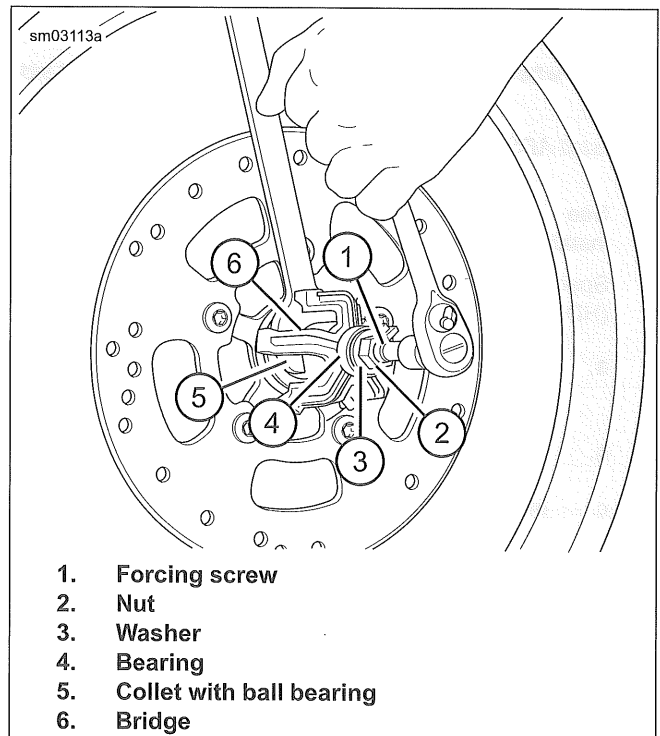

Figure 3-22. Gripping Bearing
2. See Figure 3-22. Assemble WHEEL BEARING INSTALLER/REMOVER (PART NUMBER: HD-44060D).
- b. Install nut (2), washer (3) and bearing (4) on screw.
- c. Insert assembly through hole in bridge (6).
- d. Install ball bearing inside collet (5). Fasten collet and ball bearing to forcing screw (1).
- a. See Figure 3-22. Hold end of forcing screw (1) and turn collet (5) to expand edges of collet.